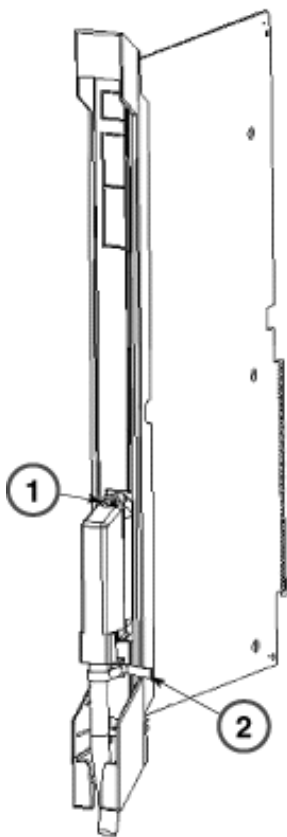

Figure 3-15. Connecting the Amphenol Connector to the Front of the TDL Module
1. Attach the male end of the 25-pair cable to the amphenol connector on the front of the TDL module as shown in Figure 3-15. Screw the top of the amphenol cable hood into the connector on the TDL module.